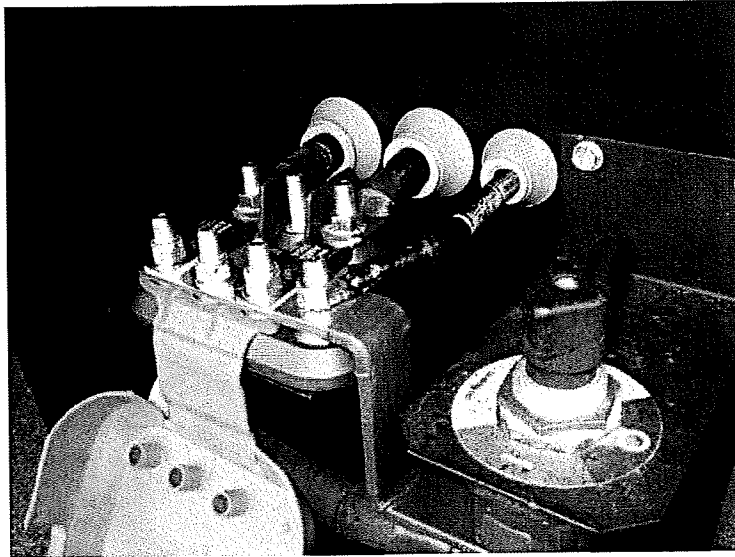

Figure 11
20. Feed the Clean power harness through the small grommet on the back of the enclosure. Install the Clean power cable over the MFJB input terminal (on top of the buss bar) and secure using a 5/16-18 Toothed Nut, TBB 69004003 and torque to 8-10 ft-lbs. **Figure 11**